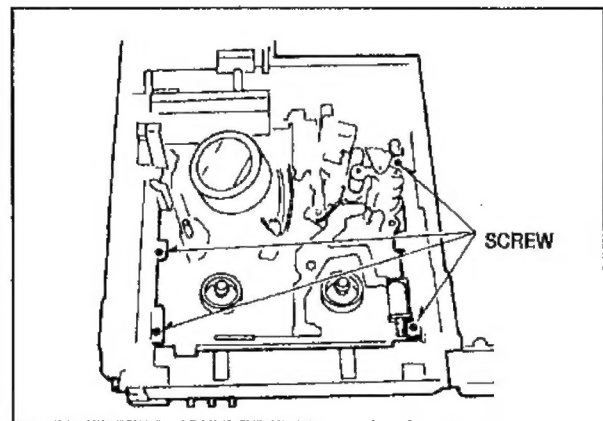

Fig.M50
5. Tighten 4 screws as shown in Fig.M50.